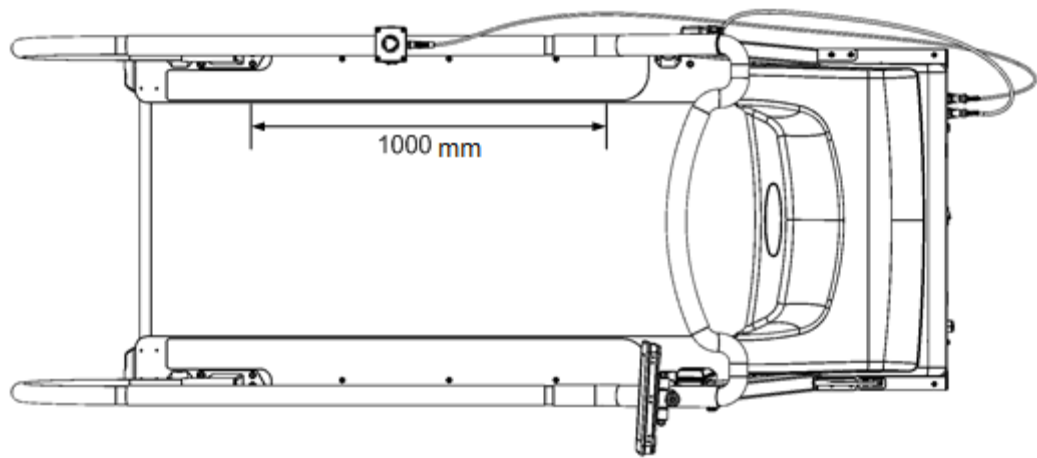
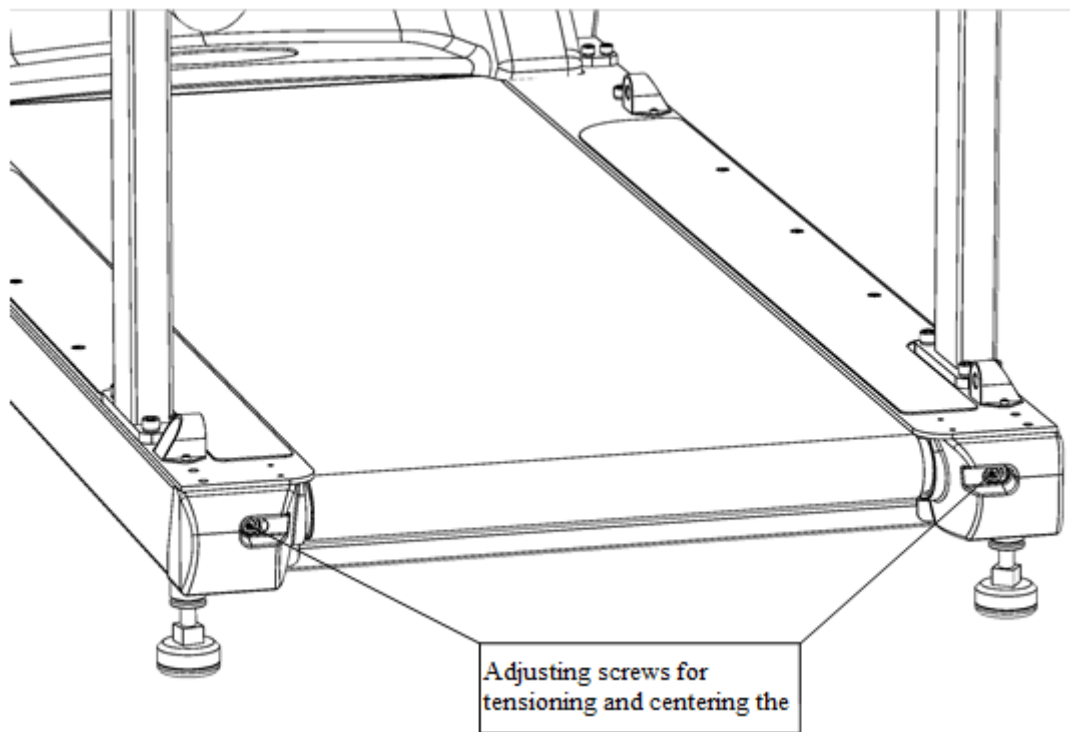

Figure 46 - Marking the running belt for its tensioning
Figure 47 - Location of the adjusting screws for tensioning and centering the running belt
The tension of the running belt should not exceed 0.4 ... 0.5%. To tension the running belt, it is necessary to mark two points on the surface of the running belt at a distance of 1000 mm from each other with a marker (see Figure 46). When doing this, the running belt must be completely loosened. After that, it is necessary to tension the running belt until the distance between these points becomes within 1004 ... 1005 mm (0.4 ... 0.5%) using screws that adjust the degree of tension of the running belt (see Figure 47 ) using a 10 mm hex wrench. When rotating these screws clockwise, the running belt is tensioned by shifting the corresponding edge of the rear shaft. When tensioning, it is necessary to monitor the uniform shift of each end of the rear shaft, otherwise the running belt will move from the center position to the edges of the treadmill as it is operating. If this happens, it is necessary to center the running belt according to the recommendations provided in Section 0 – Running belt centering).
Is necessary, lubricate the running belt (see Section 0 – Running belt lubrication), as the presence of lubrication can facilitate the running belt centering procedure. Centering is performed on a tensioned running belt (according to Section 0 - Checking and adjusting the tension of the running belt) while the running belt is moving, using the adjusting screws located at the rear part of the treadmill (see Figure 47), using a 10 mm hex wrench.
- If the running belt has displaced to any of the edges of the treadmill, return the running belt to the center position by rotating the left adjusting screw (see Figure 47). Turning the left adjusting screw clockwise shifts the running belt to the left edge of the treadmill, and turning the left adjusting screw counterclockwise shifts the running belt to the right edge of the treadmill.